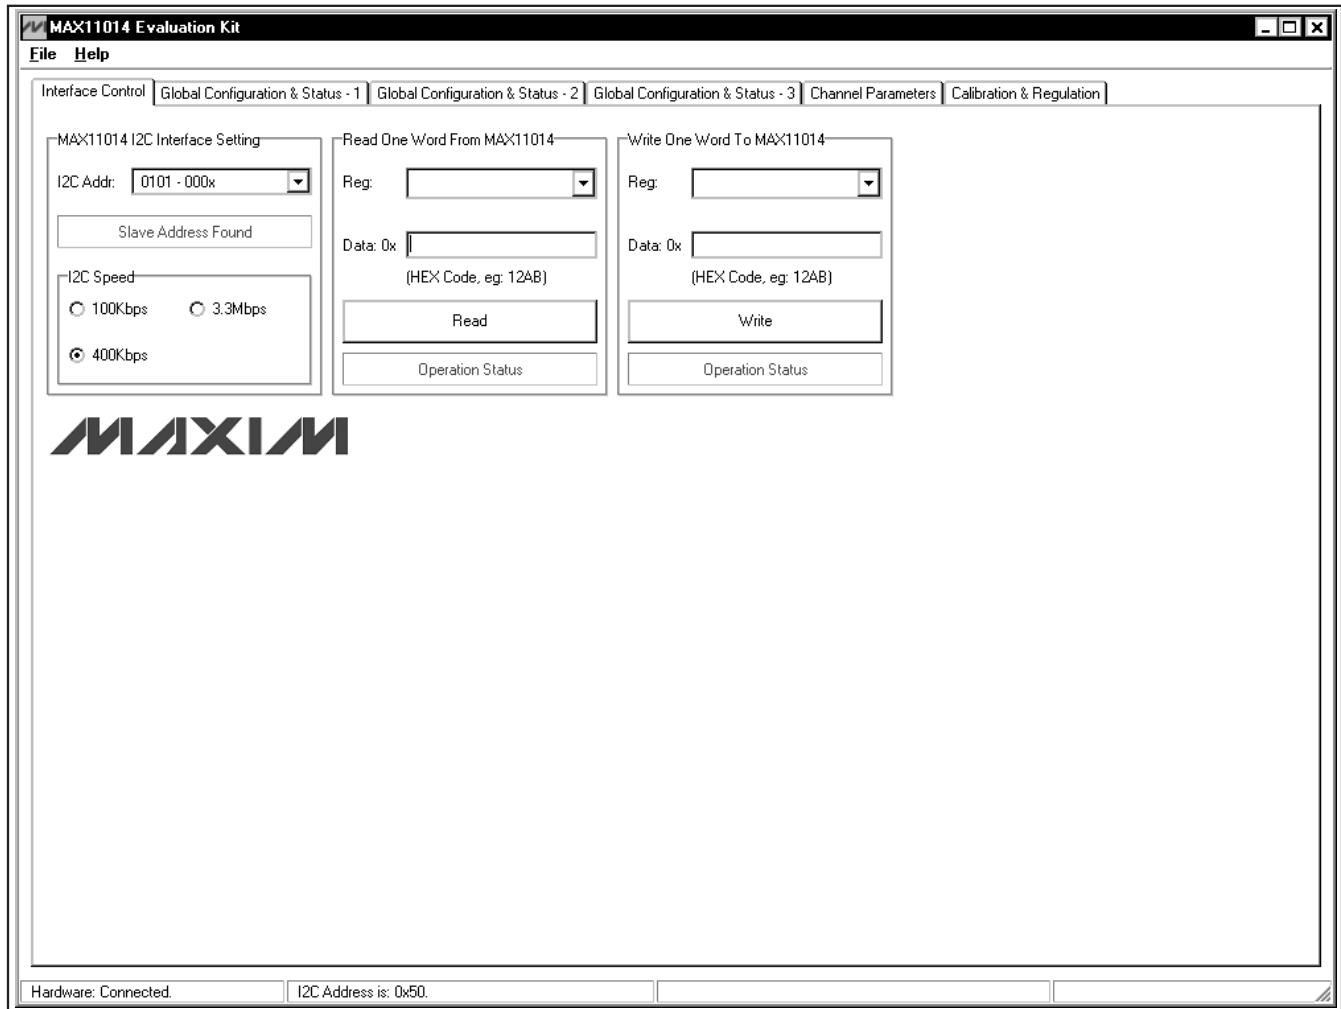

Figure 1. MAX11014 EV Kit Software Main Window (Interface Control Tab)
- 9) Start the MAX11014 EV kit software by opening its icon in the **Start | Programs** menu. The EV kit software main window appears, as shown in Figure 1.
The **Interface Control** tab sheet shown in Figure 1 sets the I²C bus mode and the MAX11014 slave address. See Table 1 for the MAX11014 address pin configurations.